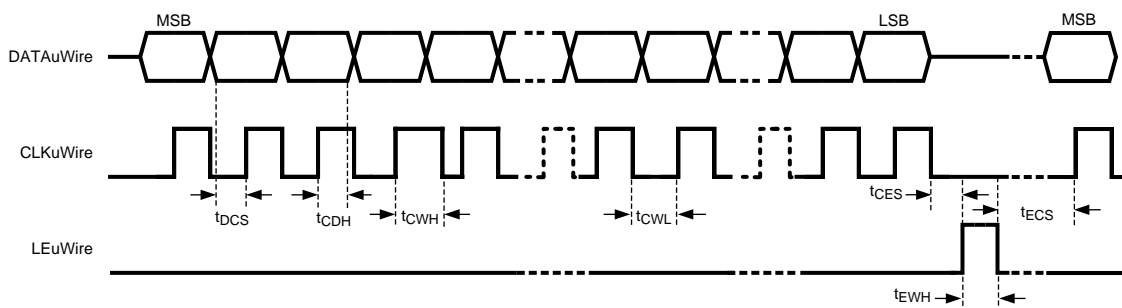

Figure 3. MICROWIRE Timing Diagram
1. Write R31 with READBACK_ADDR = 3. DATAuWire and CLKuWire are toggled as shown in Figure 3 with new data being clocked in on rising edges of CLKuWire
2. Toggle LEuWire high and low as shown in Figure 3.